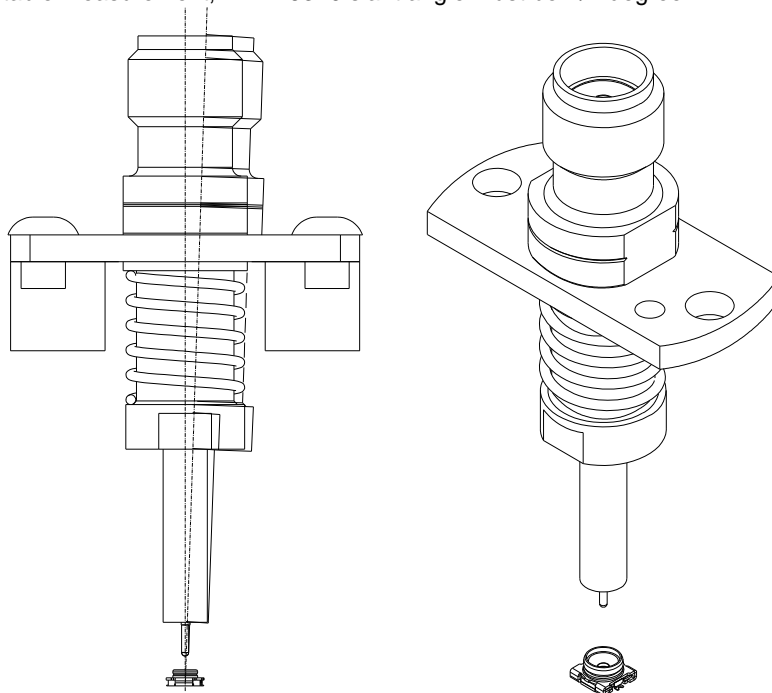

Figure.5 Probe Shape Operation Manual for Auto Measurement probe (MM126320)
3.4 The slant angle tolerance of probe against SWD, SWF and SWG. (Figure 5)